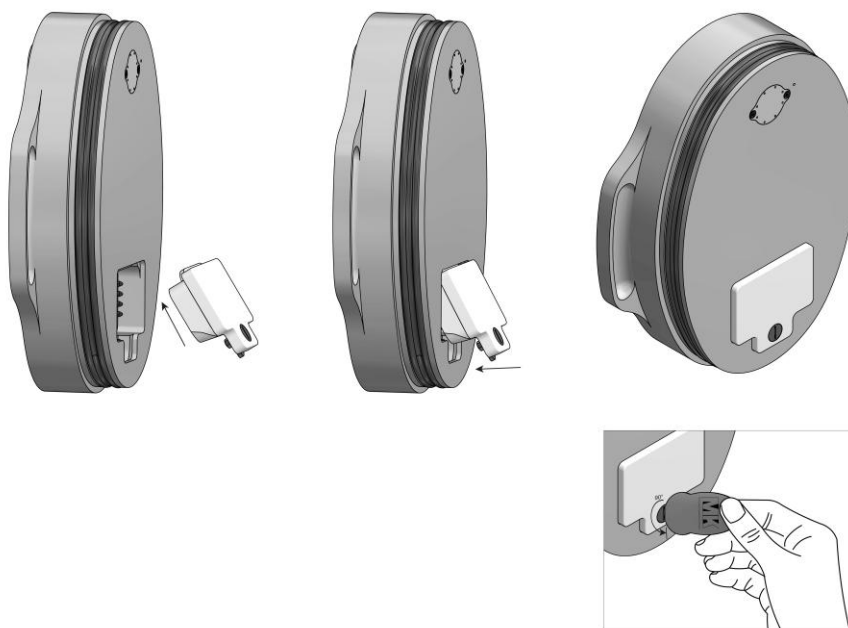

Figure 4: Inserting the battery into the Glove Test Device
- Insert the battery diagonally into the recess provided for it in the Glove Test Device, press it on and turn the locking screw anti-clockwise by 90° (figure 4).